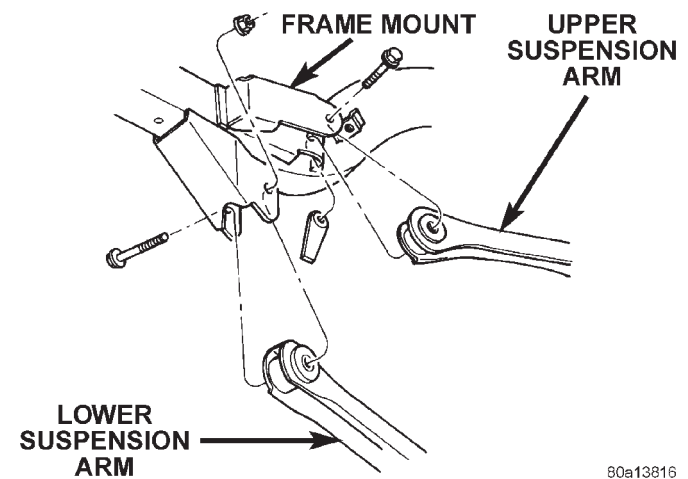

Fig. 3 Upper & Lower Suspension Arms
- (3) Remove the nut and bolt at the frame rail mount (Fig. 3) and remove the lower suspension arm.
- (4) Remove the nut and bolt from the frame rail bracket (Fig. 3) and remove the upper suspension arm.